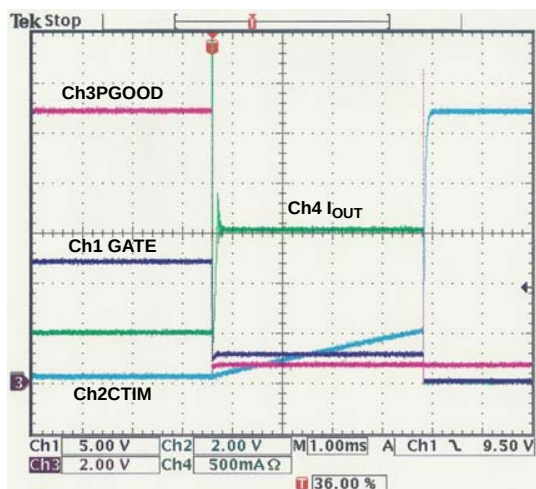

FIGURE 5A. RESPONSE TO OC DURING OPERATION
charging. The nominal time-out period is $CTIM \times 93k\Omega$. An overcurrent (OC) event occurs when the current through the sense resistor exceeds the user programmed OC threshold (see data sheet). The controller enters current regulation (CR) and capacitor CTIM begins charging. The nominal time-out period is $CTIM \times 93k\Omega$. (see Figure 5A). A transient event from 500mA to 1A occurs. PGOOD is pulled low due to a temporary undervoltage condition occurring on +5V_{OUT}, but CTIM stays low as a true OC event never occurs (See Figure 5B).